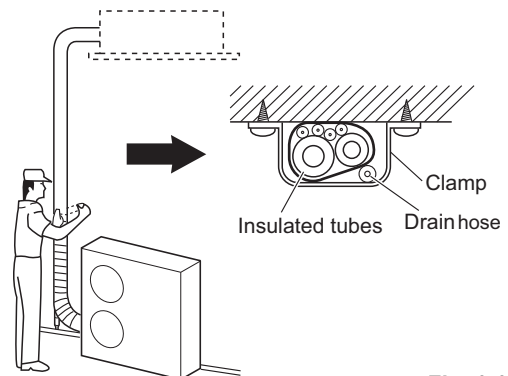

Fig. 1-138
- (1) At this time, the refrigerant tubes (and electrical wiring if local codes permit) should be taped together with armoring tape in 1 bundle. To prevent condensation from overflowing the drain pan, keep the drain hose separate from the refrigerant tubing.
- (2) Wrap the armoring tape from the bottom of the outdoor unit to the top of the tubing where it enters the wall. As you wrap the tubing, overlap half of each previous tape turn.
- (3) Clamp the tubing bundle to the wall, using 1 clamp approx. each meter. (Fig. 1-138)